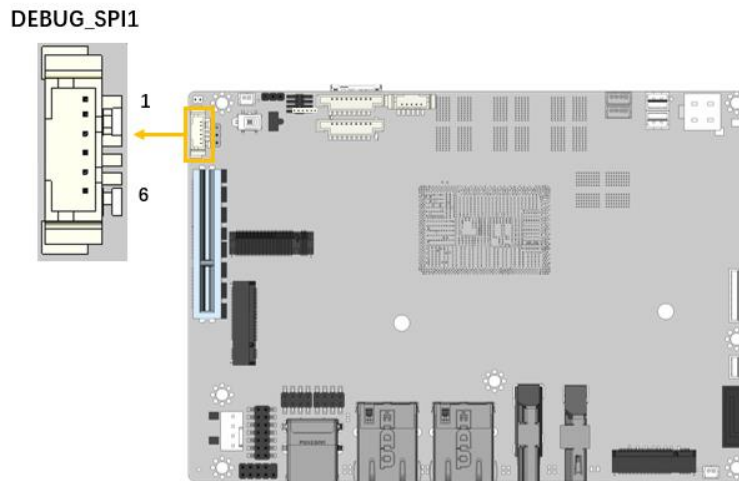

Figure 3-22: EC Debug Connector Location
- CN Location:** See **Figure 3-22**